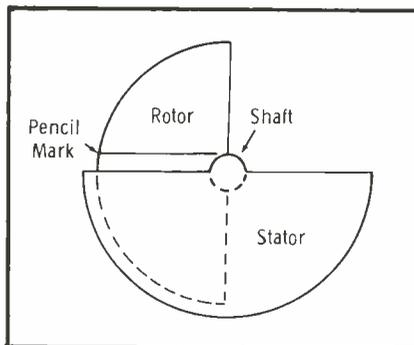

Fig. 4. Pencil mark rotor at point where it adjoins the stator.
If this test indicates that the antenna circuit needs more or less capacity to track properly, proceed as follows: (1) Pencil mark the outside rotor plate of both the antenna and oscillator sections of the gang (Fig. 4) at the point where the unmeshed section of the plate divides from the meshed section. (2) Rotate the gang until the plates are completely unmeshed. (3) Locate the pencil mark on the antenna section, and apply a light pressure at this point. The idea is to narrow the spacing between rotor and stator in the area of the pencil mark so that capacity in that area will be increased.